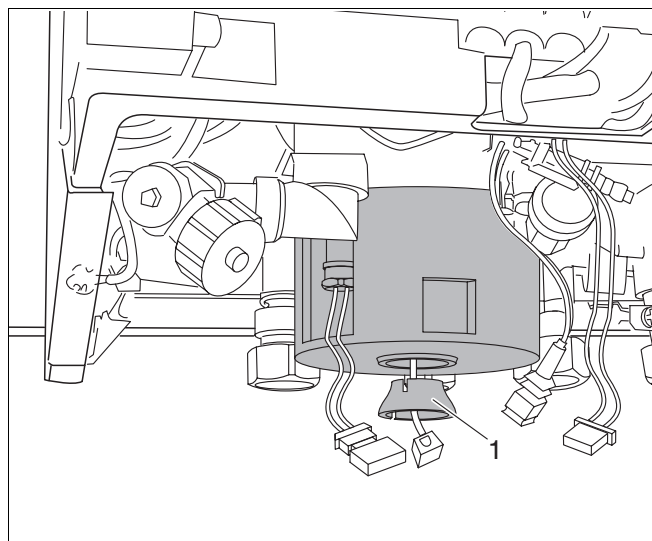

Fig. 71 Changing the domestic hot water / mains water supply
- Remove insulation mounting (fig. 71, item 1) and detach insulation.